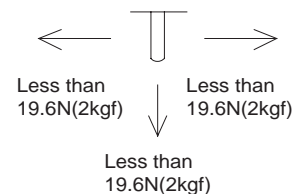

Fig. 6.1 Stress to the pins
- Applying excessive stress to the input or output pins of the power module may damage internal connections. Avoid applying stress in excess of that shown in Fig. 6.1.